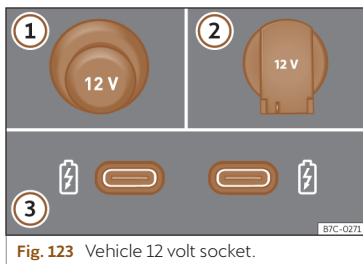

Fig. 123 Vehicle 12 volt socket.
12 volt power socket»» Fig. 123:
- Remove the cover from the socket, located on the centre console»» Fig. 123 ①.
- Lift the power socket cover»» Fig. 123 ②.